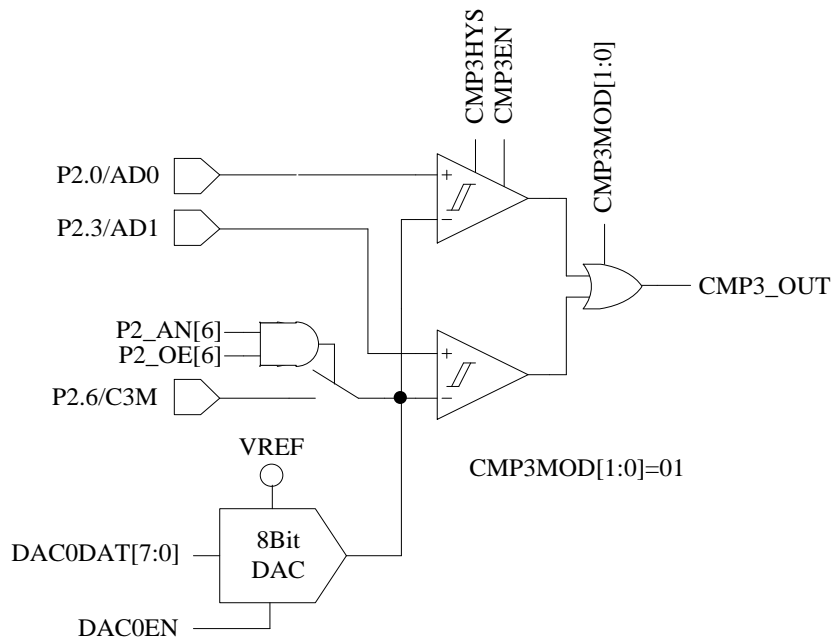

Figure 30-3 Dual-comparator Input Mode
- When CMP_CR1[CMP3MOD] = 01, CMP3 works in Dual-comparator Input Mode. The connection of input and output pins are shown in Figure 30-3.